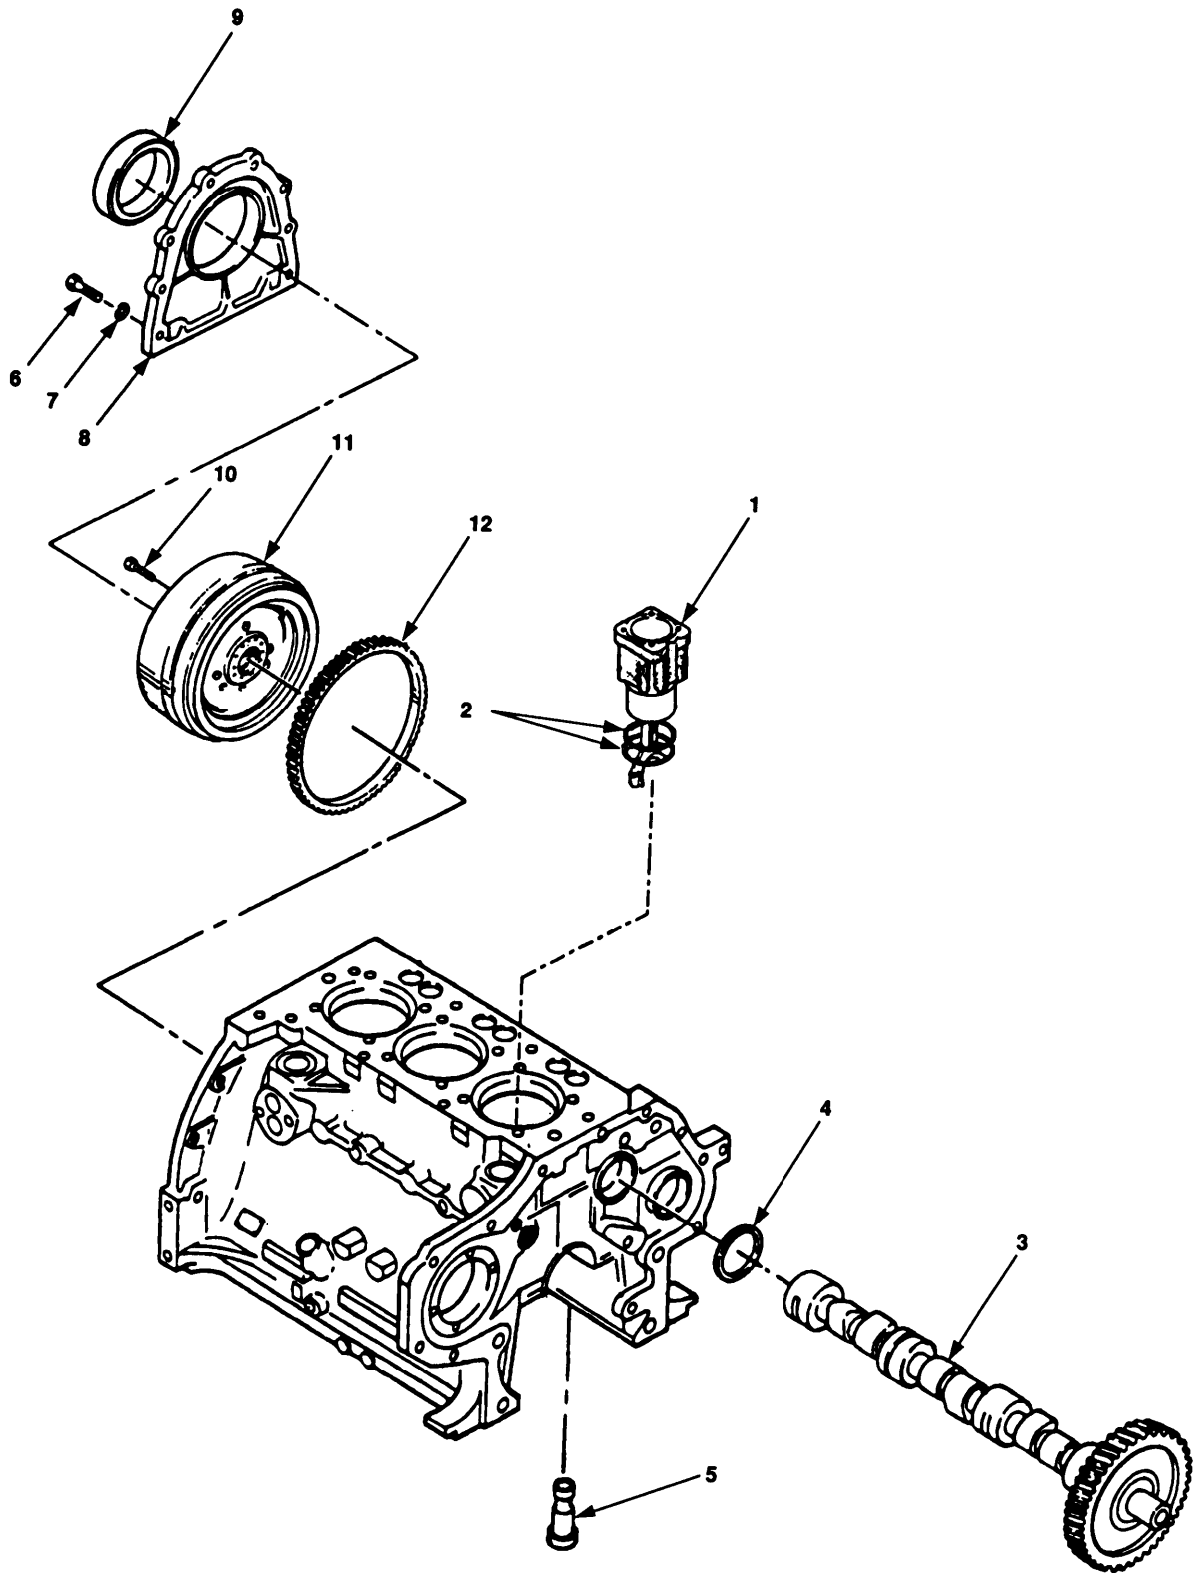

Figure 6-9. Cylinders Camshaft and Flywheel Removal.
- m. Remove cylinders (figure 6-9, 1) and shims (2).
- n. Carefully remove camshaft (3), washer (4) and valve tappets (5).
- (1) Remove eight bolts (6), washers (7), and rear end cover (8).
- (3) Press seal (9) out of rear end cover (8).